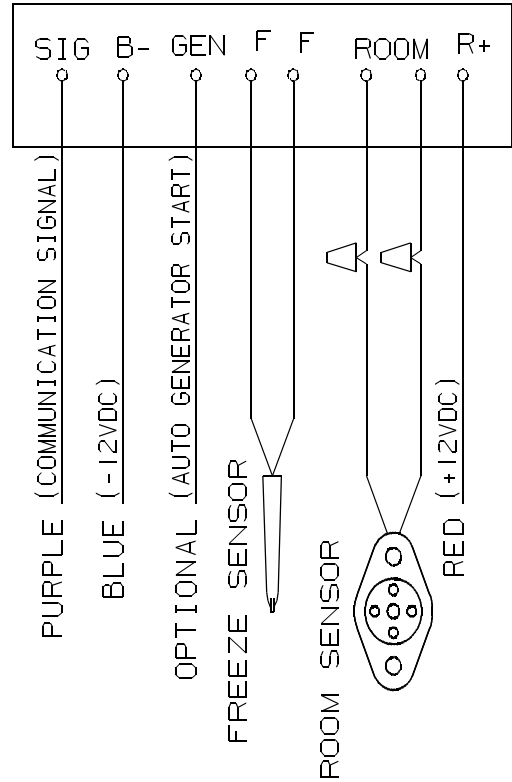

FIGURE 8
10. Attach the thermostat wires to the control box per Figure 8.